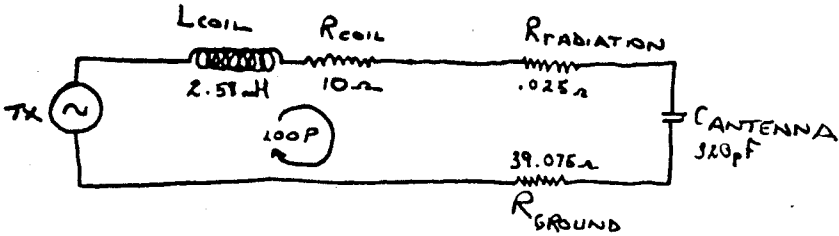
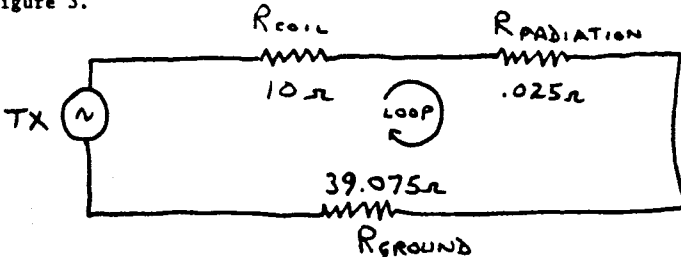

Figure 2. Transmission loop of a typical 1750m installation.
Figure 3. Transmitting loop in resonance reduces to resistances.
While the the 2,842-ohm capacitive reactance is easily tuned out by a 2,842-ohm inductive reactance, still buried in that 40-ohm resistance is a useful(?) radiation resistance of 0.025 ohms. Graphs showing radiation resistance for electrically short top-loaded verticals are found in various engineering literature (1,2,3,4). Figure 2 shows a schematic representation of the transmission loop.
Our loading coil depicted in Figure 2 has a Q of 284. Q is the ratio of inductive reactance (2842 ohms) to resistance (10 ohms). When the coil is hooked up to the antenna and transmitter the overall Q is $2842/(10+39.975+0.025)=2842/50=57$. Q is also related to bandwidth and in this case (175kHz) the bandwidth is $175000/57=3\text{kHz}$. A +/-1.5% shift in antenna capacitance or coil inductance will drop the output 3dB--half power. Since transmitter characteristics are unknown, the previous statement is at best a very crude approximation, but it is in the ball park and tuning is critical. If we assume that the circuit is resonant, we can further simplify as shown in Figure 3.
Even the most non-technical person can analyze Figure 3, and Ohm's law will suffice for all of our calculations. To radiate a signal it is necessary to dissipate some energy in the radiation resistance, R_r . The power in this resistance (ERP) is given by $I^2 R_r$. Assume that the transmitter is 100% efficient (80 or 90% is more representative) and calculate the antenna current for 1W. $I^2 = P/R = 1/50$. Therefore the best antenna current we can achieve is about 141mA (.141A) with 1W of power and a 50 ohm loop resistance. Let's make a table with various ground+coil resistances and show how the antenna current and the relative signal will vary. 1W transmitter power and .025 ohms radiation resistance is assumed, and 50 ohms (a typical loop resistance for someone on good soil with some metal in the ground) is our reference level. The radiation resistance used for this table includes that of the vertical section of the antenna only, and does not consider the effects of radiation from the top hat or the ground. ERP=effective radiated power.
If you run out and measure your antenna current and find 63.2mA, that doesn't mean that your ground is a total "loss." Your transmitter efficiency might be low, you could be mistuned, your coil could be a loser, or your RF ammeter could be a basket case. If you measure 224mA, don't pat yourself on the back because even if your ammeter is working, you may not be radiating all of it. Look at Figure 2 again. Suppose we add some capacitance from the base of the antenna to ground. Not all of the current that flows from the transmitter through the coil will make it to the radiation resistance. Some will be shunted away in the loss capacitance. The stray capacitance doesn't dissipate power, but it does divert current away from the radiation resistance and therefore decreases the radiated signal. Excessive base capacitance is caused by insufficient base insulation (separation from ground), and non-vertical feed lines running from the coil to the antenna.
- 4) Use an efficient coil. From the considerations of Figure 2, a coil Q of about 50 (57 was the overall loop Q) would result in an immediate loss of 6dB. The use of Litz wire vs. enameled wire is worth a factor of 2 improvement in coil loss. Ferrite loading is useful for producing Qs of 250 to 350 and physically small coils. A 7.5"X0.5" type 33 ferrite rod (available as part number R33-050-750 from Amidon Associates, 12033 Otsego Street, North Hollywood, CA 91607, cost is around \$3.50 including postage) is an excellent choice for loading coils. 100 turns or so will produce a maximum inductance of 5 or 6mH which can be tuned by sliding the coil around the ferrite rod. Large air-core coils or "basket" coils are probably the best, and they can exhibit Qs in excess of 600 in the 2 to 10mH range. For the curious, a ratio of 2.5:1 diameter:height is the optimum geometry for such a coil. Tuning a basket coil is best accomplished with a variometer.